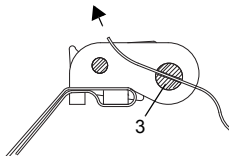

Fig. 7.18: Ratchet clasp with tension strap
- Place the tension strap around the pipe and insert it in part (3) of the clasp (see Fig. 7.18).